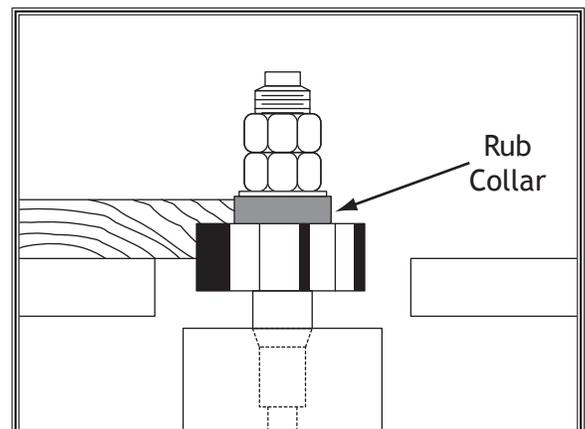

Figure 53. Rub collar installed above the cutter.
- Rub collar above the cutter:** When the rub collar is used above the cutter, the cut cannot be seen, as illustrated in **Figure 53**. This offers the advantage that the cut is not affected by slight variations in thickness, and accidental lifting will not damage the workpiece. Simply correct any variation in height by repeating the cut.